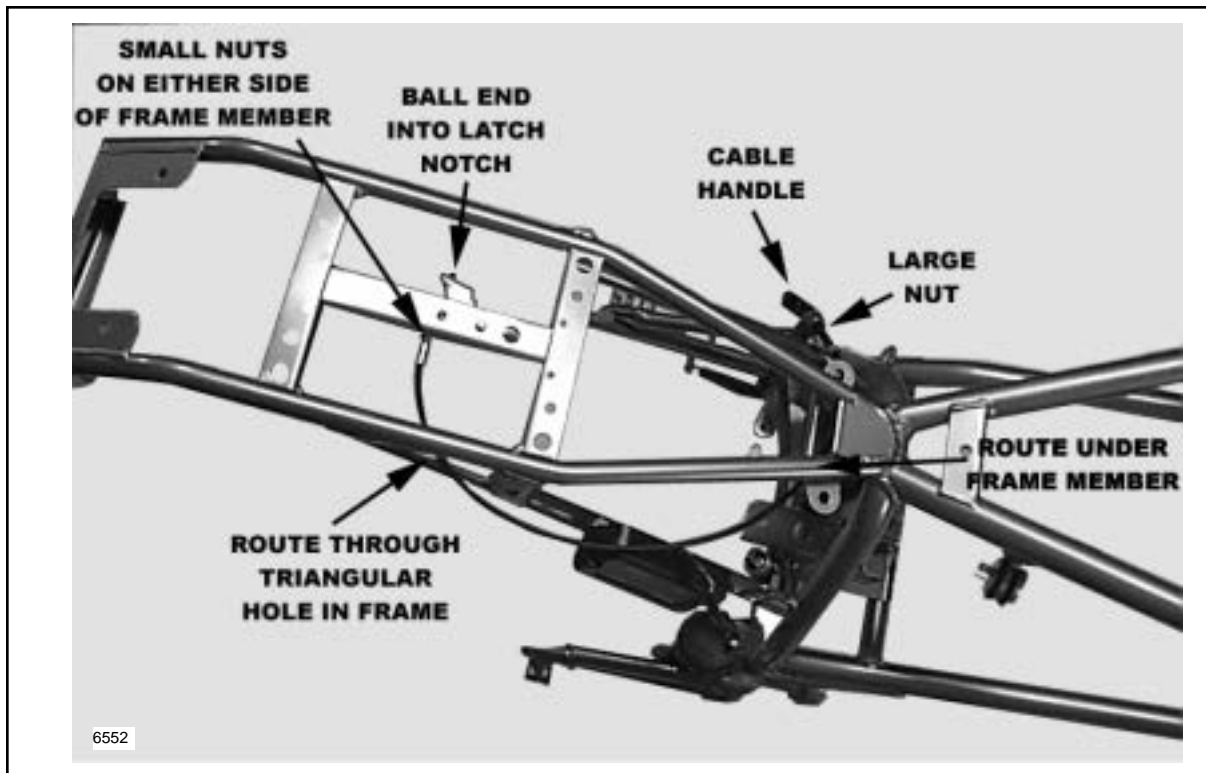

Figure 5. Cable Latch Attachment
5. See Figure 5. Install one of the two small nuts on the cable latch attachment end and then insert cable through the 17/64 inch clearance hole in the frame member. Attach the second small nut to the cable.